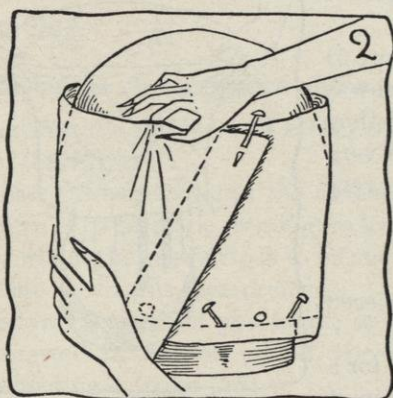

FIG. 2.
- a. Read and follow Job 42, Sections 3 *a*, *b*, *c*, and *d* and watch Figures 2 *A* and *B* and 3 of that same job (pages 170 and 171).
- (5) Cut off the tip about $2\frac{1}{2}$ inches above the headsize of the block, so that it is an even line. If you are steaming a two-pieced foundation crown for a turban, be sure to make the tip large enough so that no rough edges from the tip or side crown show through the covering on the tip when the turban is finished. To do this measure the finished tip of your turban, and cut off the crinoline tip, so that it will be at least $\frac{1}{2}$ inch larger than the finished tip all around.
- (6) Turn up the side crown and pin the lap in the side crown (see Figure 2).
- (7) If the side crown does not fit tight at the tip, follow these directions:
- (b) Pull the fullness out of the top of the side crown by drawing it up flat against the tip and pinning it to the tip (see Figure 2).